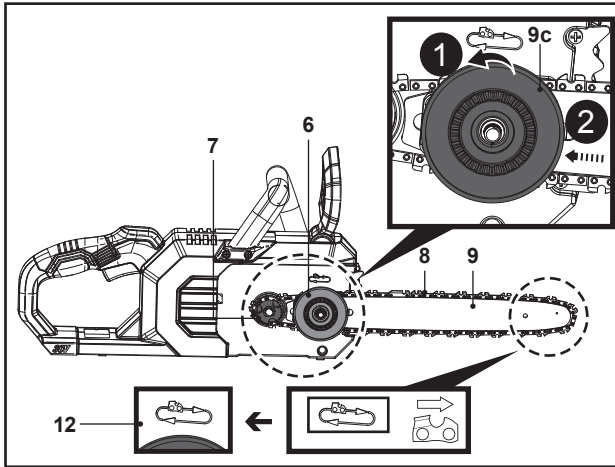

Fig. 3
**WARNING!** THE DIRECTION OF THE SAW CHAIN ‘CUTTERS’ MUST BE SAME AS INDICATED BY THE SYMBOL AND ARROW ON THE CHAIN SAW COVER (12)!
5. Rotate the turning wheel (9c) anticlockwise to adjust the guide bar (9) towards the left to the end of slot. Align the saw chain (8) and guide bar (9) assembly with the drive sprocket (7) and the mounting bolt (6). Lay the saw chain (8) around the drive sprocket (7) and then lower the guide bar (9) to install it to the mounting bolt (6) (Fig. 3, steps 1, 2).